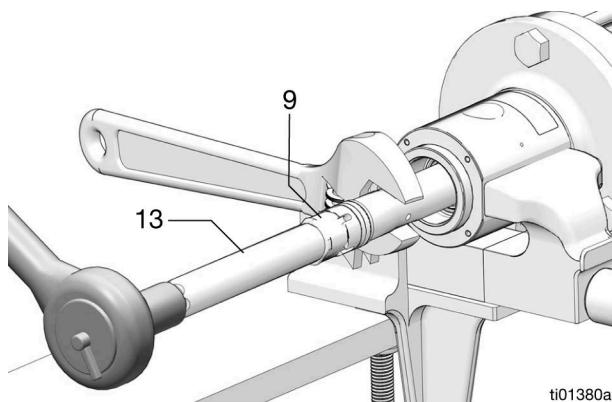

FIG. 26
10. Reinstall the fluid piston (9) and the connecting rod (13) using one wrench on the displacement rod (14) flat and a 15/16 in. socket on the connecting rod (13) and then tighten, torque to 140 - 160 ft-lb (189.8 to 216.9 N•m) (FIG. 26).